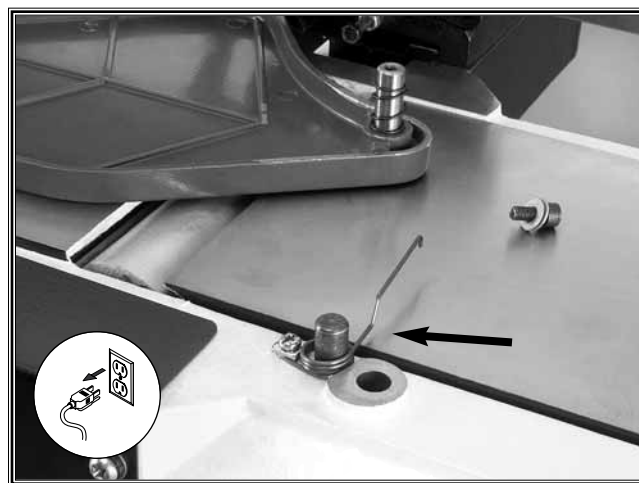

Figure 42. Blade guard spring.
4. Remove the screw that secures the blade guard spring and remove the spring (**Figure 42**). *Make note of the spring position before removal. This will simplify installing the new spring.*